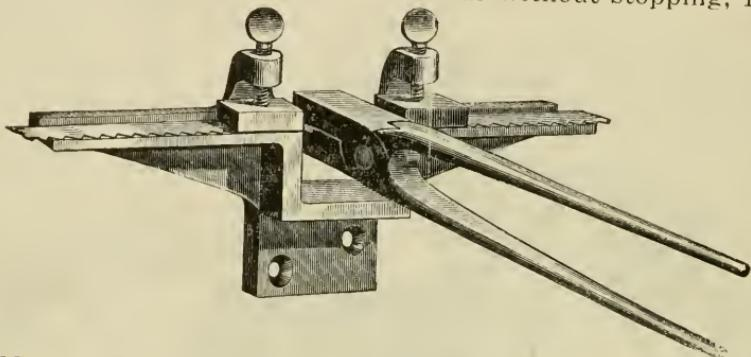

FIG. 40--BRAZING TONGS IN POSITION AFTER HEATING
42. Brazing -- A brazing clamp with tongs is illustrated in Figs. 40 and 41. Before joining, the ends must be filed at an angle so as to give a good bevel fit to the ends. (Be sure that the joint after
brazing will be no thicker than any other part of the saw.) Both ends of the saw are then secured in the clamp, as shown in Fig. 40. The edges must be parallel, that is, the back edges of the two ends of the saw must form a straight line, otherwise the saw will run badly and break soon after it has again been placed on the machine. This may be kept straight, if the back edge of the saw is placed firmly against the straight edge which forms the back part of the clamp.
For a flux, use a thin coating of borax paste. This is prepared by grinding the borax on a specially prepared slate, with a small amount of water. A thin piece of sheet silver solder, just the size of the joint, is then placed in the lap. The brazing tongs heated to a bright red, are next placed over the joint, as shown in Fig. 40. However, be sure that you first scrape the scale off